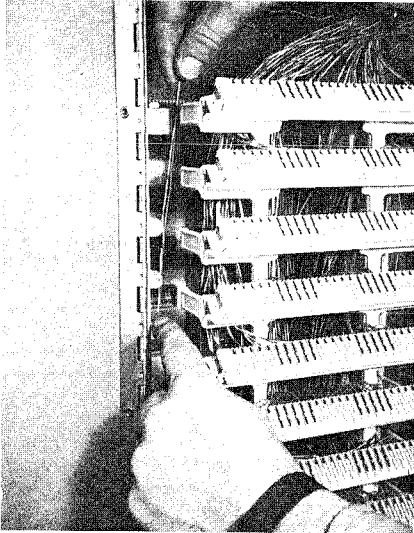

Fig. 6 – Routing Jumper Wire
4.02 Route one end of the jumper wire (“Z” Cross-Connecting Wire) down and behind the wiring channels in the “OUT” cable field. (See Fig. 6.)